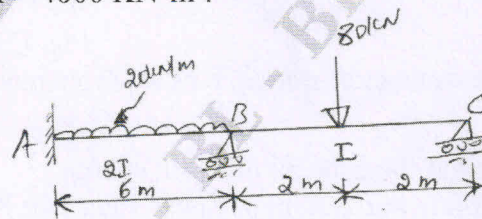

Fig. Q6
- 6 Analyse the continuous beam as shown in Fig. Q6 by force transformation method. Support B sinks by 10 mm. Take  $EI = 4000 \text{ KN-m}^2$ .